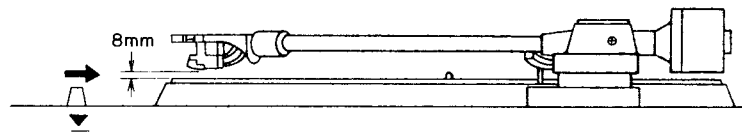

Fig. 11
- 3) Put a record on and set the elevation control to ∇ . Adjust screw (a) until there is an 8 mm gap between the tip of the stylus and the surface of the record. (Refer to Figs. 11, 12.)